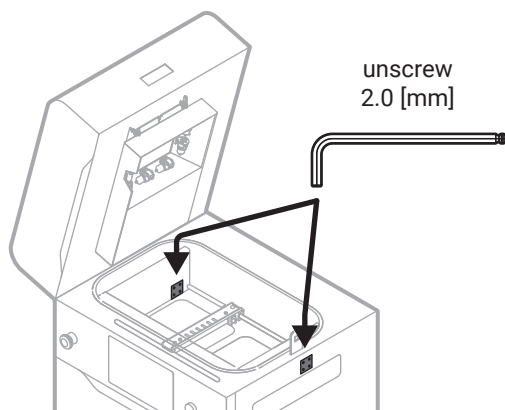

Fig. 3 Unscrewing the screw of the Recoater cord.
8. Using a 2 mm allen key, unscrew the screws on the Recoater cord mounting plate on the left and right sides (fig. 3).